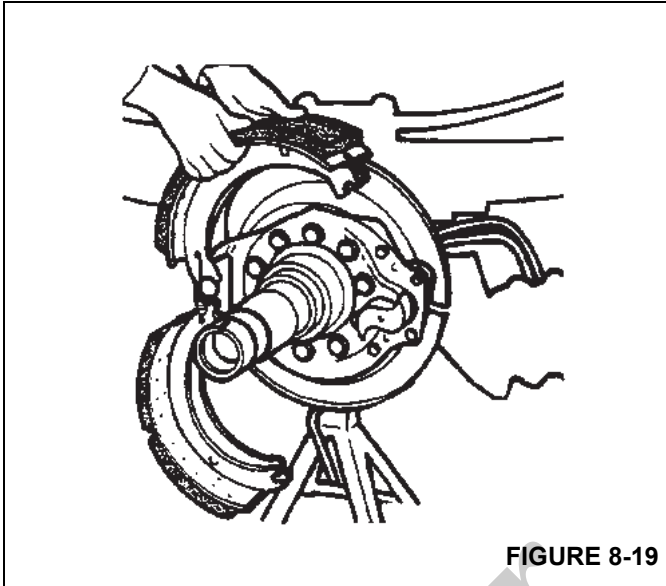

FIGURE 8-19
13. Remove the shoes from the axle (see Figure 8-19).